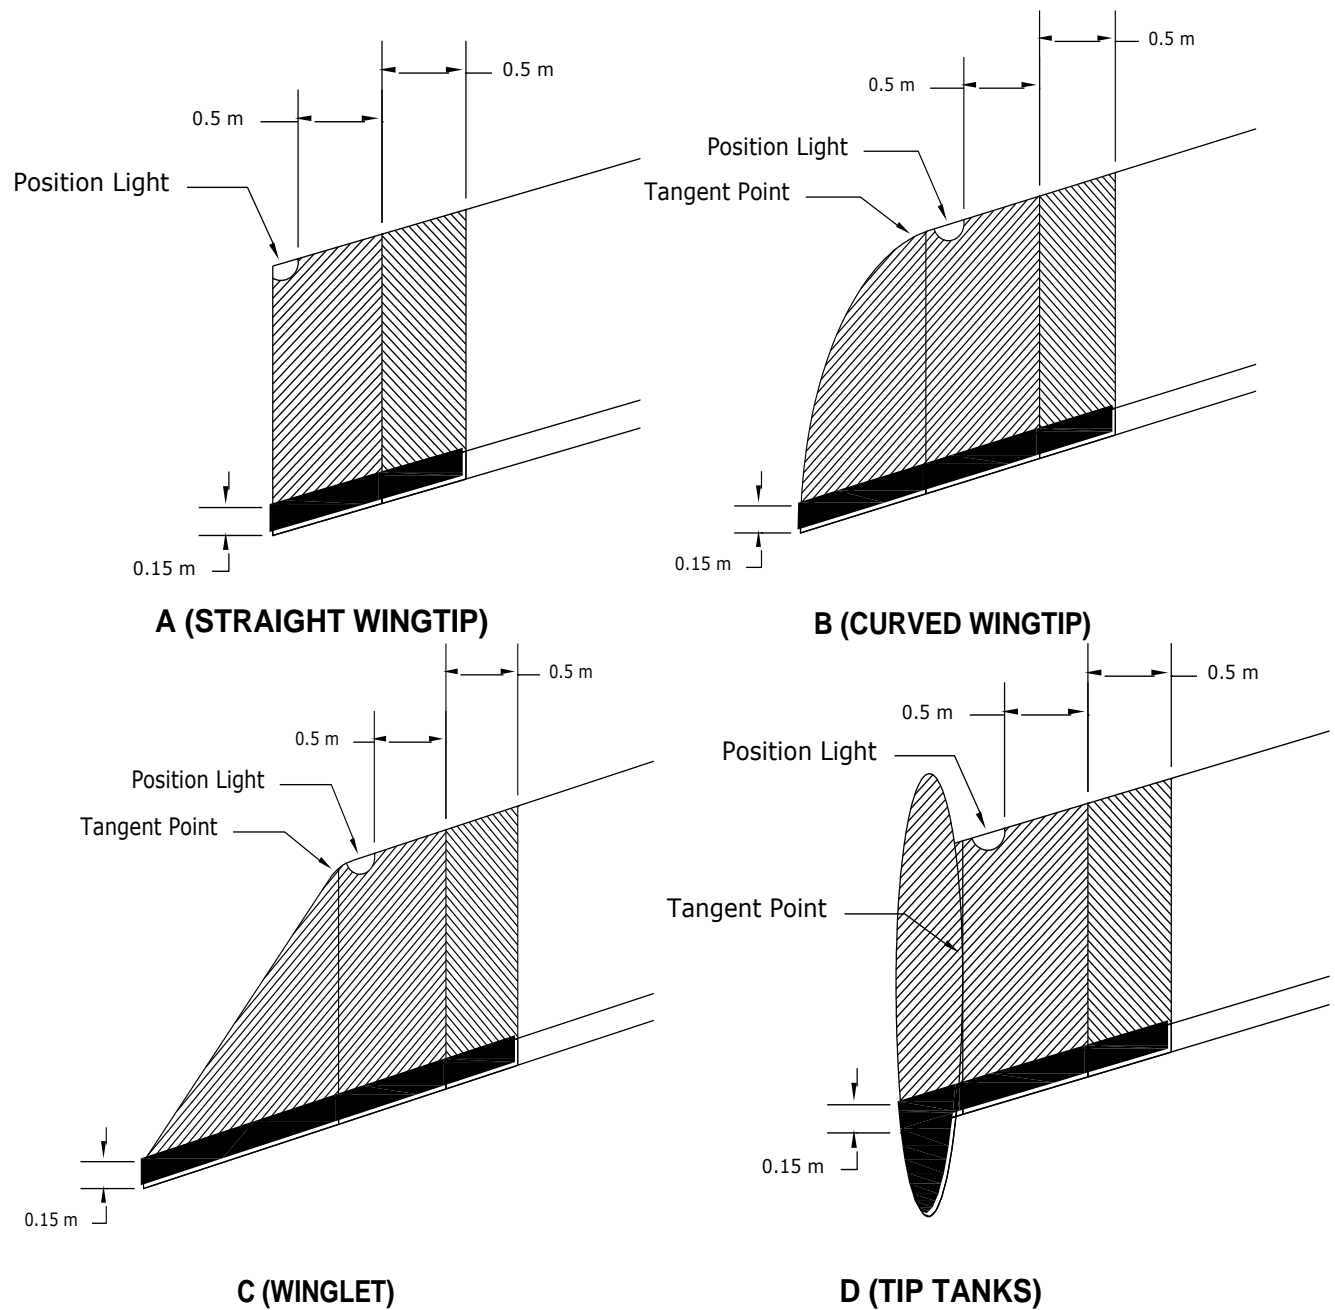
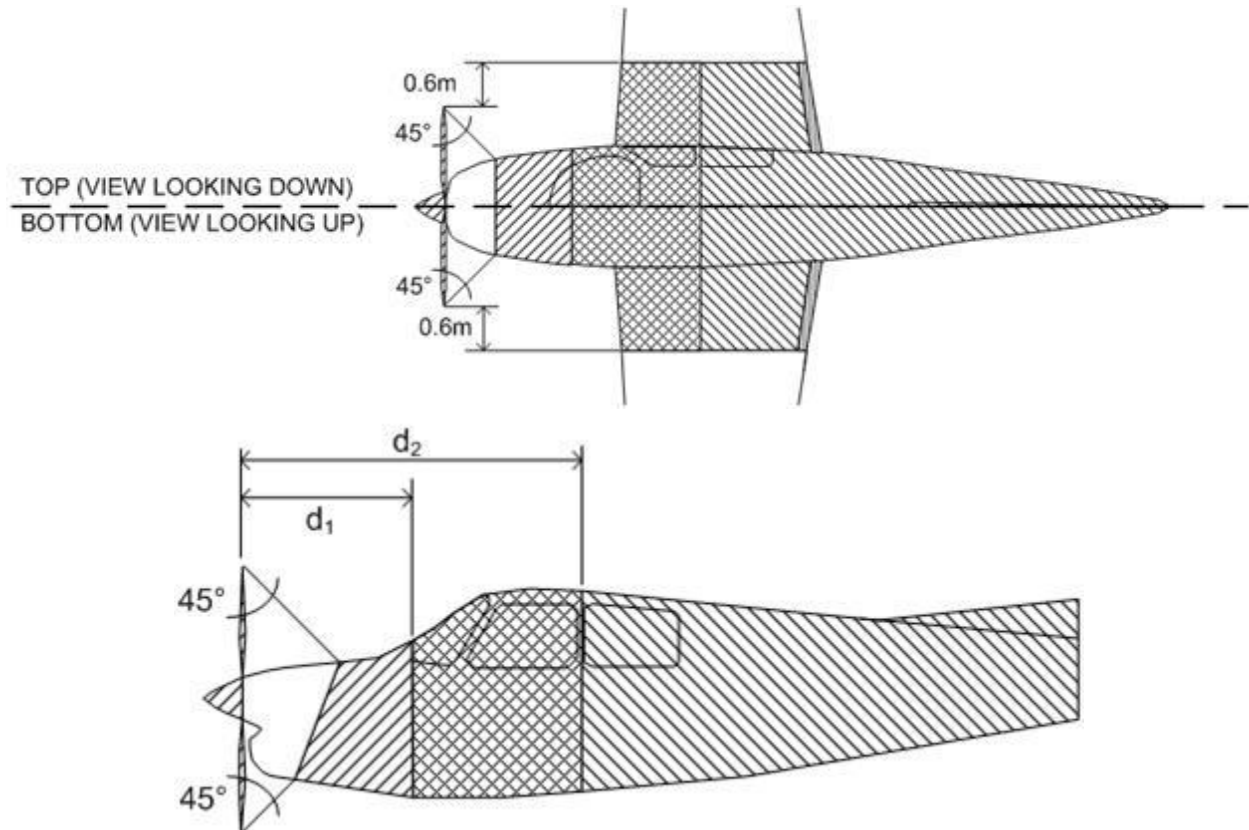
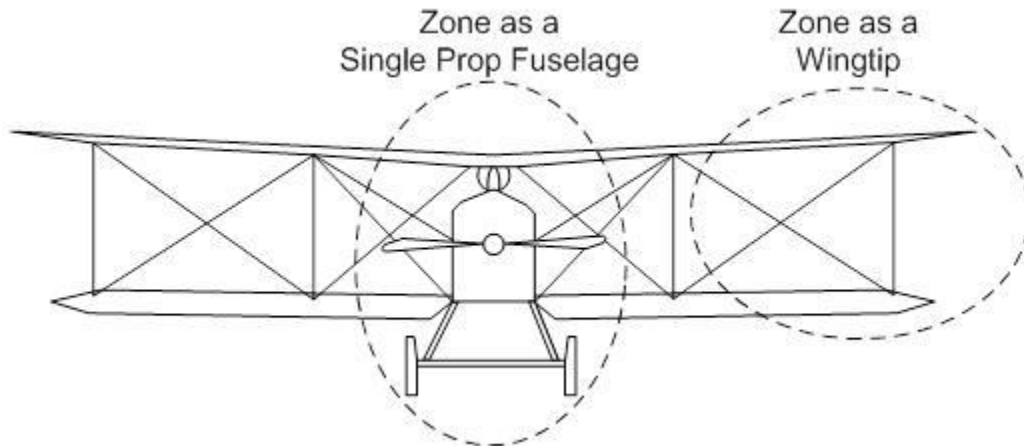

Figure 6-29 Zoning for Wingtips on Aircraft Limited to VFR Operations
Figure 6-31 Zoning for a Single Propeller (Low- or High-Wing)
Figure 6-40 Zoning for Single-Propeller Biplane
- Zone 1A/1B finishes as shown in Figure 6-29 **or** 0.5 meters inboard from the inboard edge of the position light, whichever is the greater distance from the outboard edge of the wing tip, as shown in Figure 6-28
Zoning of low- or high-wing aircraft with single propellers is shown in Figure 6-31. The area of the nose
Figure 6-40 shows how biplanes can be classified using the figures from above. The top and bottom of both wings will be zoned using Figure 6-29, while the fuselage and the mid-sections of the wing can be zoned using Figure 6-31.